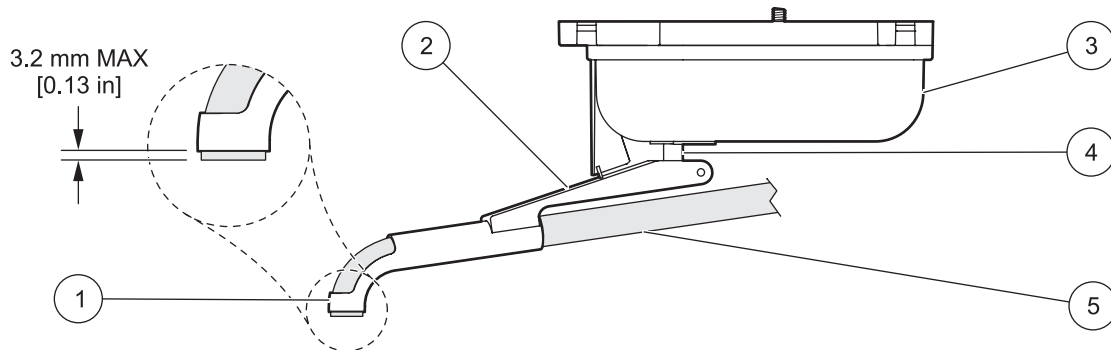

Figure 36 Distributor assembly
2. Insert the new tubing into the distributor arm so that the end of the tubing extends out of the nozzle no more than $\frac{1}{8}$ inch (Figure 36).